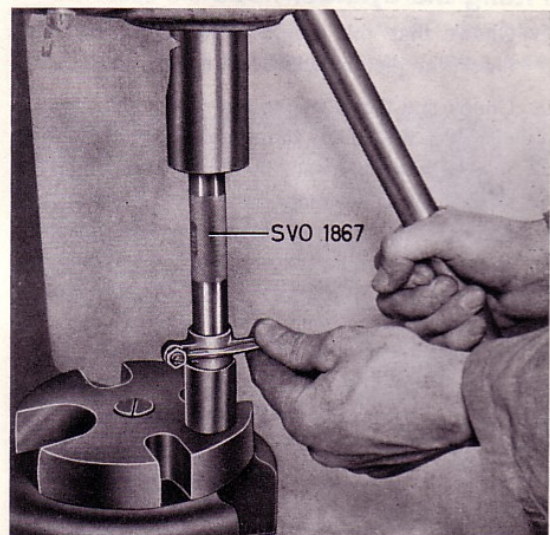

Fig. 30 Replacing bush in rocker arm
1. If wear amounts to 0.1 mm (0.004"), replace the rocker arm bush. Use tool SVO 1867 for pressing the bush out and in, see Fig. 30. Then ream the bush with a suitable reamer until an accurate fit on the shaft is obtained. The hole in the bush should coincide with the hole in the rocker arm.